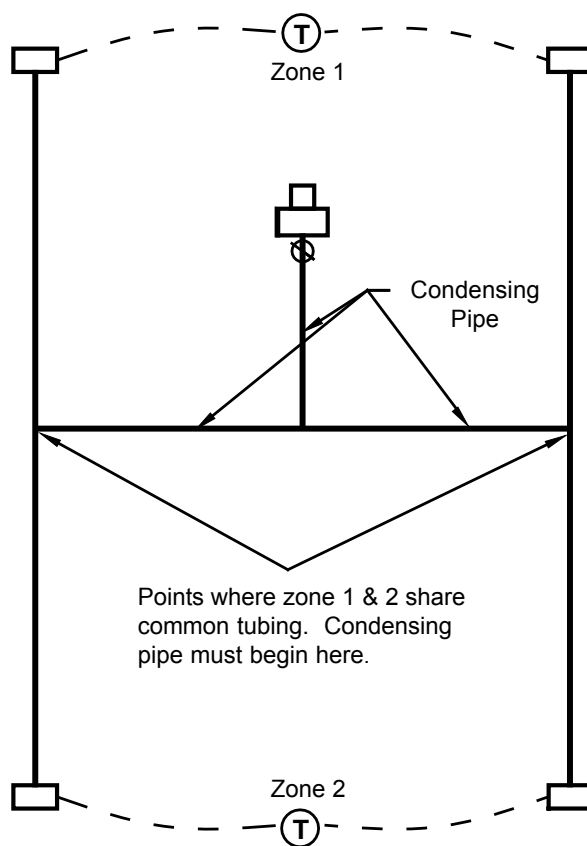

Figure 2-5
- a) At the point where the two different zones will have burners that share common tubing, condensing pipe must be used. The condensing pipe will start at this point and continue through to the pump. See figure 2-5 for an example.